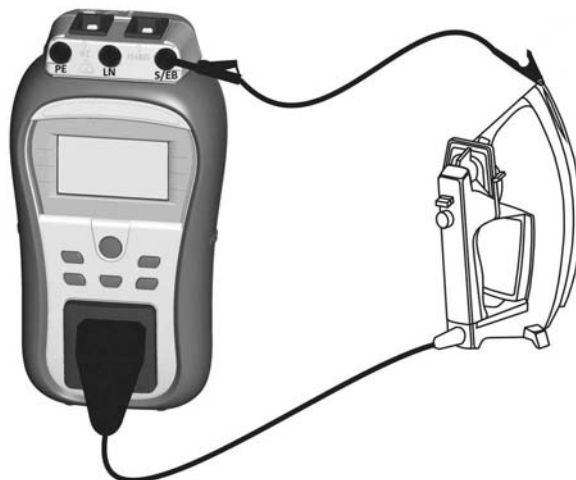
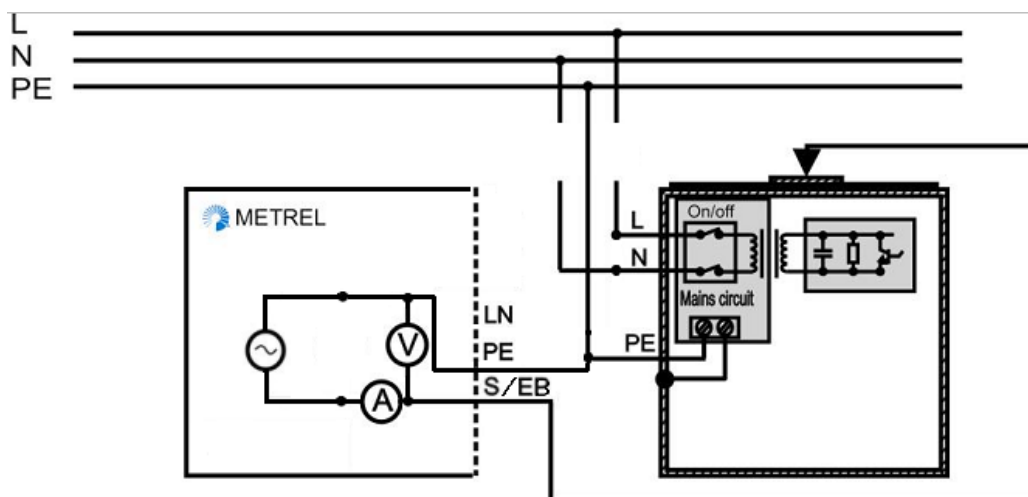

Figure 5.5: Measurement of Earth continuity
Figure 5.6: Measurement of Earth continuity of fixed installed DUTs of Class I
- › Connect device under test to the instrument (see **Figure 5.5** and **Figure 5.6**).